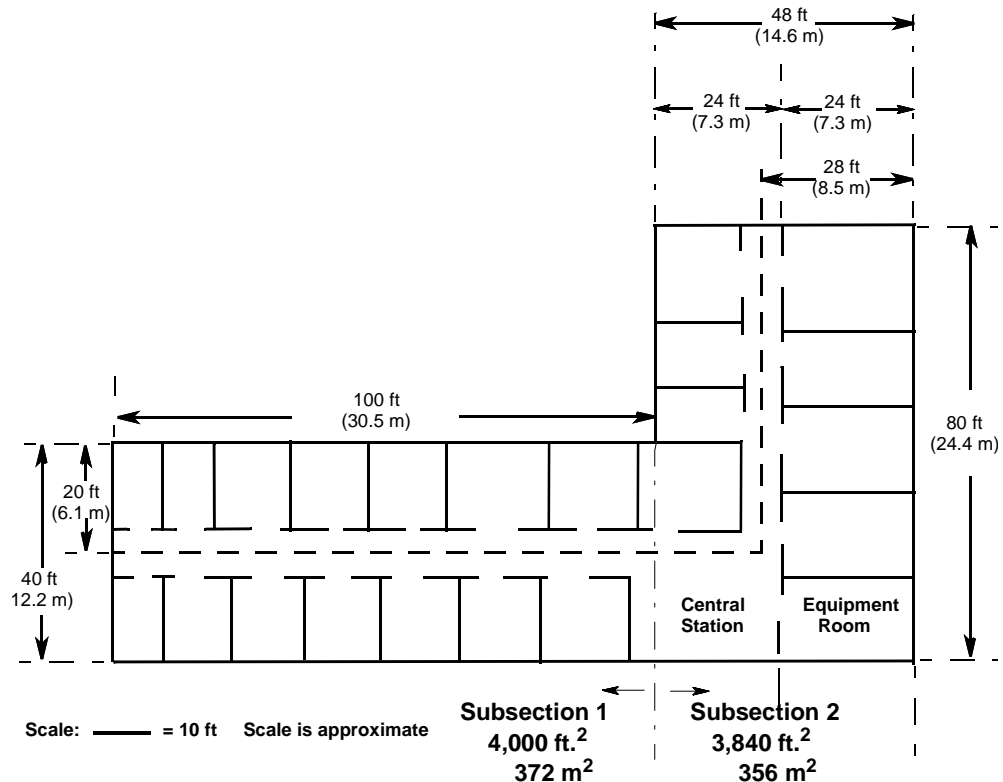

Figure 9-4 Determining and Calculating Sub-Sections
Step 2. Add each sub-section's dimensions as shown in the example that follows. See Figure 9-4 as an example of a hospital floor.